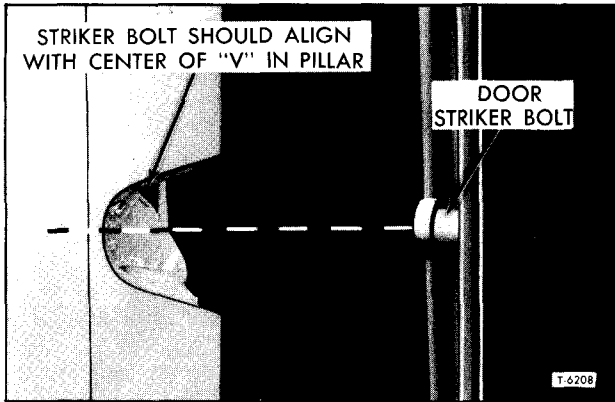

Figure 16—Sight Checking Striker Bolt Alignment
5. If door has been removed and then installed or aligned in opening, the door should not be closed completely until a visual check is made to determine if lock cam will engage the striker bolt correctly. Center of striker bolt should be in direct alignment with "V" slot in door. See figure 16. If necessary, reposition striker bolt as directed below under "Striker Bolt Adjustment."